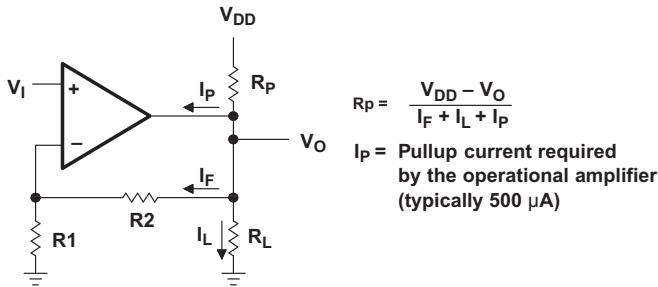

Figure 42. Resistive Pullup to Increase  $V_{OH}$
Although the TLC27M4 and TLC27M9 possess excellent high-level output voltage and current capability, methods for boosting this capability are available, if needed. The simplest method involves the use of a pullup resistor (RP) connected from the output to the positive supply rail (see Figure 42). There are two disadvantages to the use of this circuit. First, the NMOS pulldown transistor N4 (see equivalent schematic) must sink a comparatively large amount of current. In this circuit, N4 behaves like a linear resistor with an on-resistance between approximately 60  $\Omega$  and 180  $\Omega$ , depending on how hard the operational amplifier input is driven. With very low values of RP, a voltage offset from 0 V at the output occurs. Second, pullup resistor RP acts as a drain load to N4 and the gain of the operational amplifier is reduced at output voltage levels where N5 is not supplying the output current.